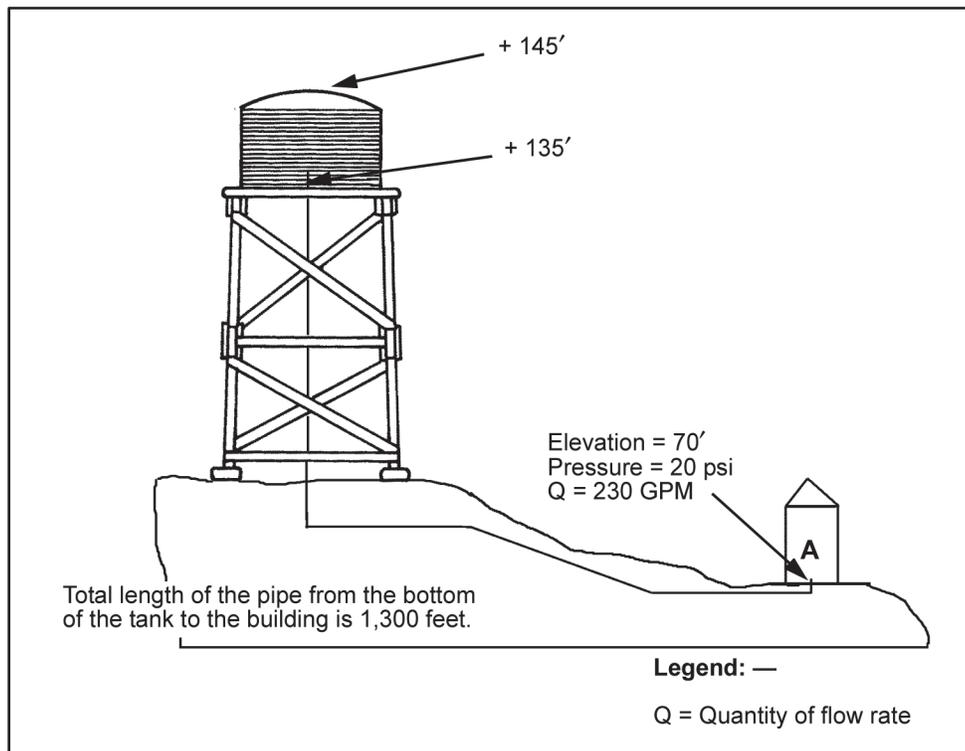

Figure E-4. Water line, design 1
Step 3. Determine the pipe length. Pipe length given is 1,300 feet (figure E-4).